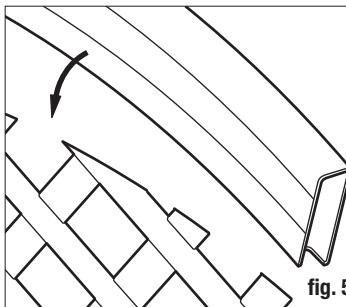

fig. 5
- Slide the top notched rail over the top of the lattice (fig. 5).